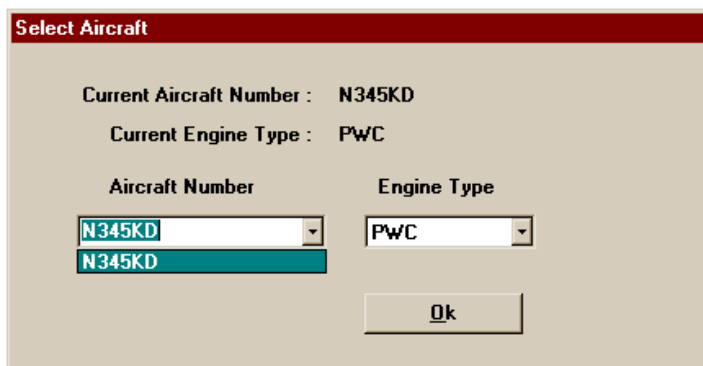

Figure 54. Select Aircraft Screen
2. In the Select Aircraft Screen, use TAB key (or mouse) to select the Aircraft Number field (refer to Figure 54).